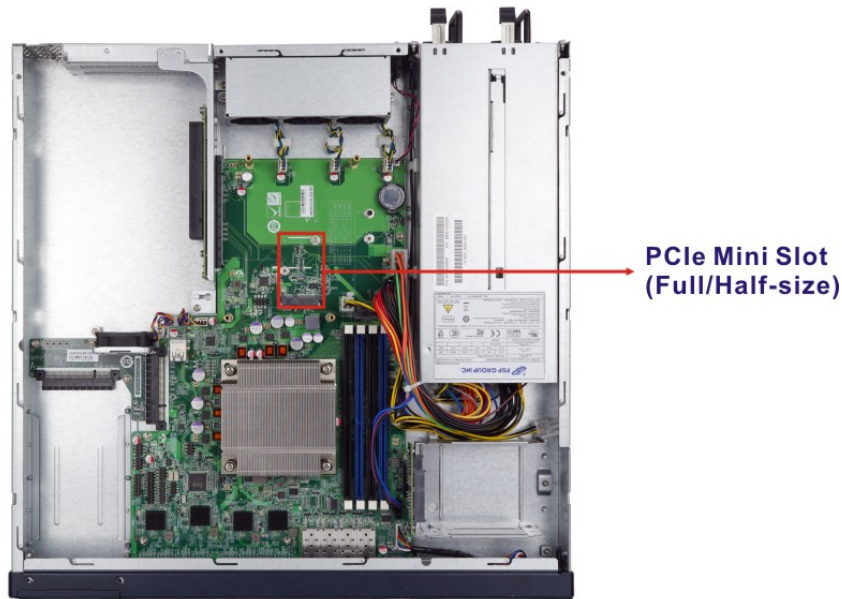

Figure 3-14: PCIe Mini Slot Location
Step 3: Locate the PCIe Mini slot on the motherboard (Figure 3-14).